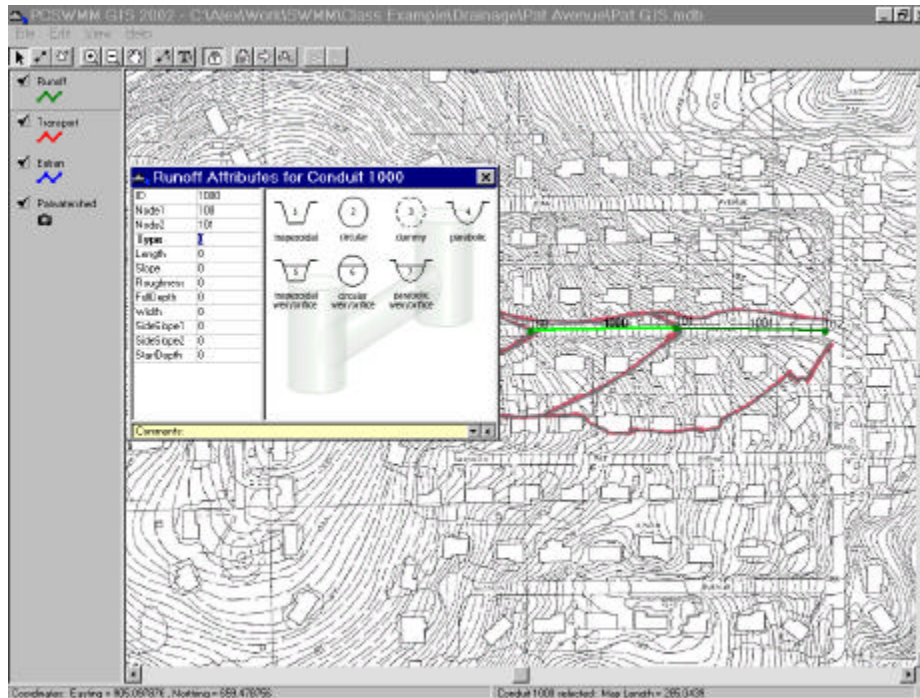

Figure 17
Use the first icon (the arrow) from the top GIS toolbar to select the elements. Double click on the first conduit (number 1000). Select a circular type (2), and enter the appropriate values: a length of 300 ft. and a slope of 7.3% (see Figure 17). In the RUNOFF block, the pipe slopes are entered as ft/ft (vertical to horizontal inverted slope), not as %, so enter 0.073 here. However, in the TRANSPORT block, the pipe slopes are entered as ft/100ft, or as a %. The required units, for each cell, may be found in the help window's hyperlink.